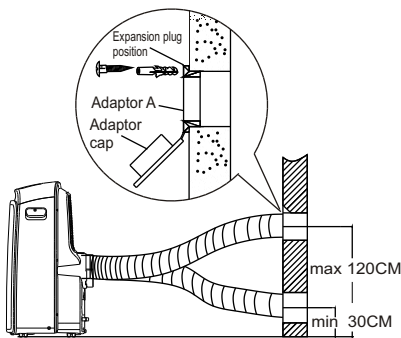

Fig. 18
1. Prepare a hole in the wall. Install the wall Exhaust adaptor A onto the wall(outside) by using 4 expansion plugs and wooden screws, be sure to fix thoroughly. (See Fig.18)